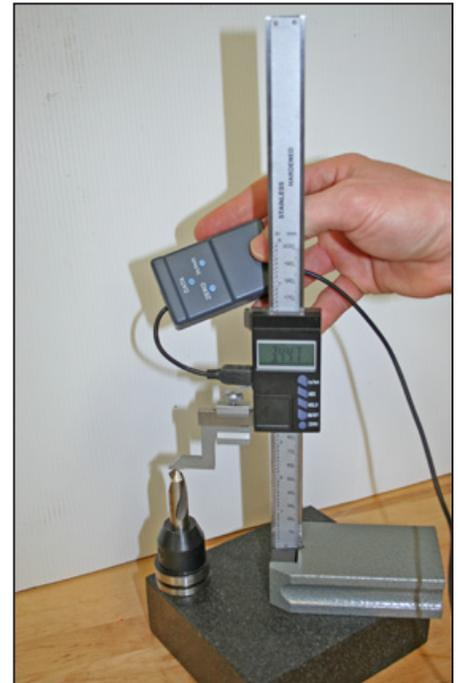

Figure 6.20
The Tormach Tool Assistant Set (PN 31988) includes an 8" digital height gauge and a USB interface cable with touch trigger (see **Figure 6.20**).
**NOTE:** *Granite Surface Plate with Integrated Tool Hole (PN 31713), as shown in **Figure 6.20**, helps accurately measure tool length.*
3. To measure tool height, mount the tool in a TTS tool holder and place on a block (see **Figure 6.20**). The tool height measurement is the distance from the block surface to the end of the tool tip.